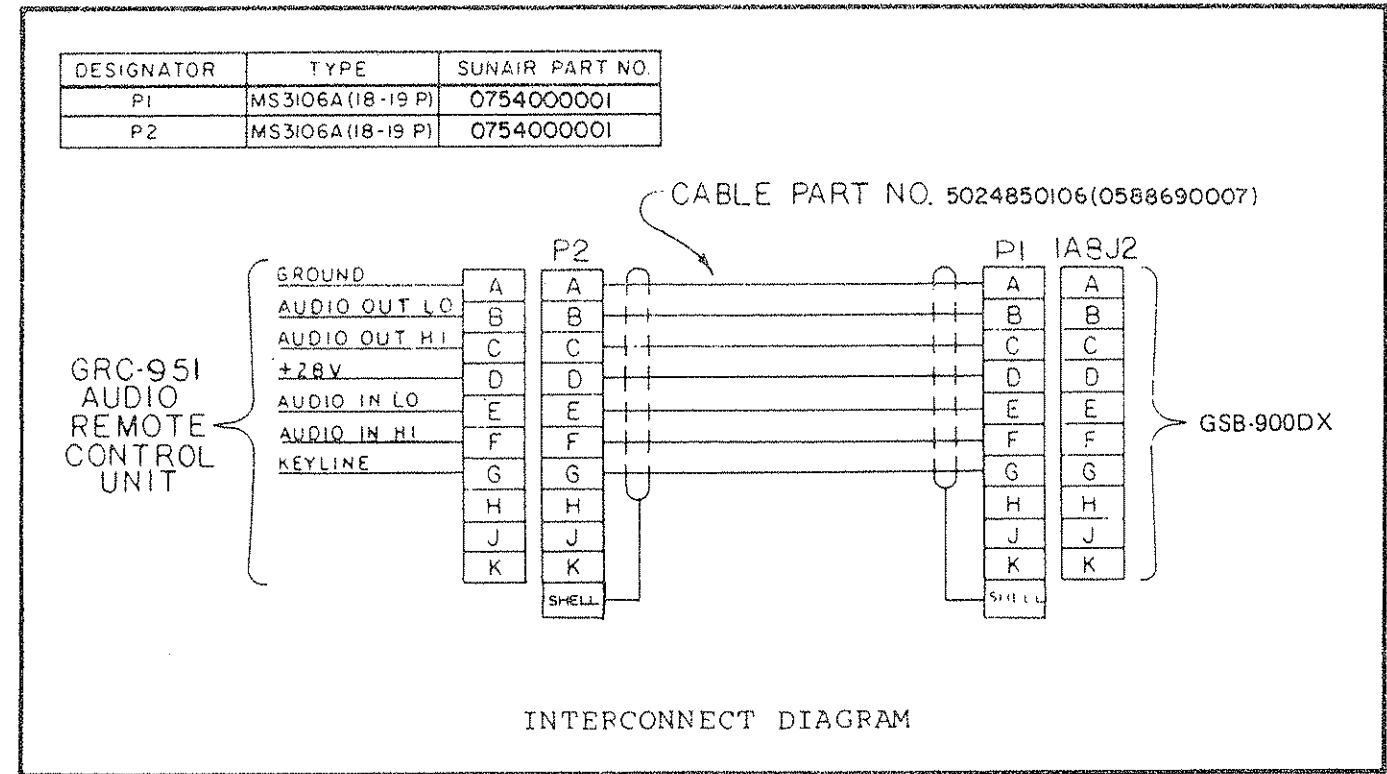

Figure 6.4 GRC-951 Audio Remote Control Unit Interconnect Diagram
- c) Refer to figure 6.4 and wire connectors P1 and P2. Note that the cable shield is grounded to Pin A only at the end connected to the transceiver.